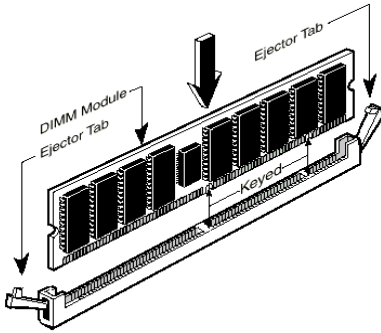

Figure 2-4. Memory module installation
Step 5. Insert the DIMM module into the expansion socket as shown in the illustration. Note how the module is keyed to the socket. You can refer to figure 2-4 for the details. ***This insures the DIMM module will be plugged into***